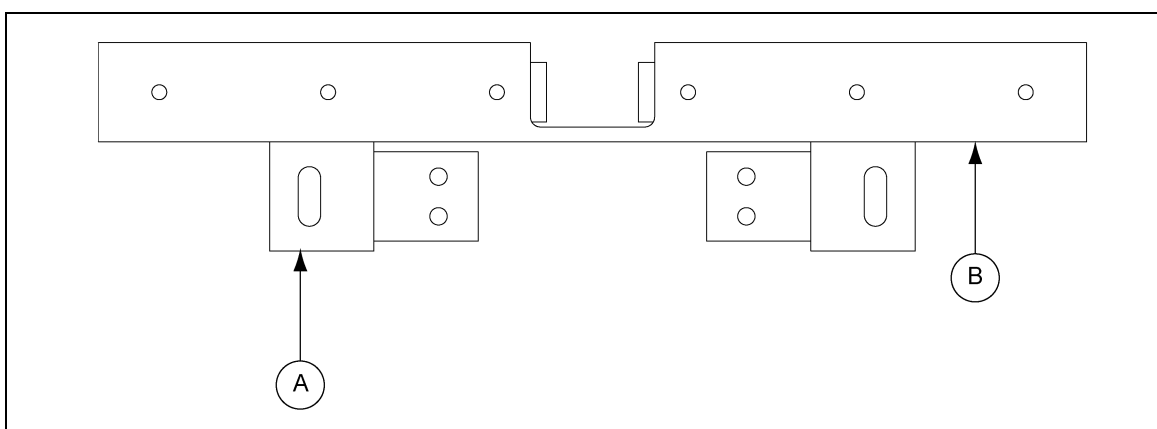

Figure 10G *End View of UHMW Flight on Carry-Over Bars*
The carry-over bars should be spaced so that they pick up the UHMW flights (B) as shown in Figure 10G on Page 49.